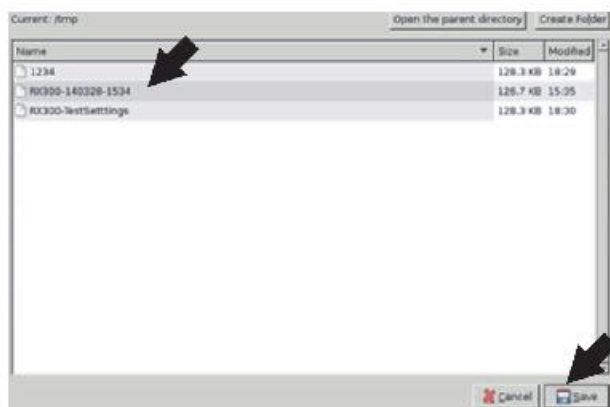

Fig.7 Select upload file window
- (3) Touch the [CHECK] on the file selection screen, and the [Select Upload File] window (Fig. 7) pops up.
- (4) Touch the uploading file name in the file name display area in this window and confirm that the selected file name appears in the File Name box.